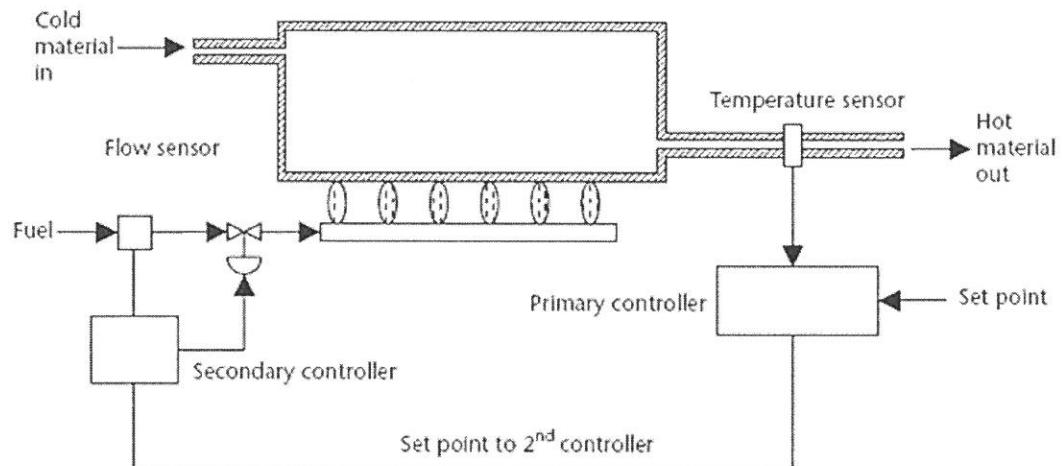

Figure 4(a)/ Rajah 4(a)
- CLO2 (a) Explain the type of the controller in Figure 4 (a).